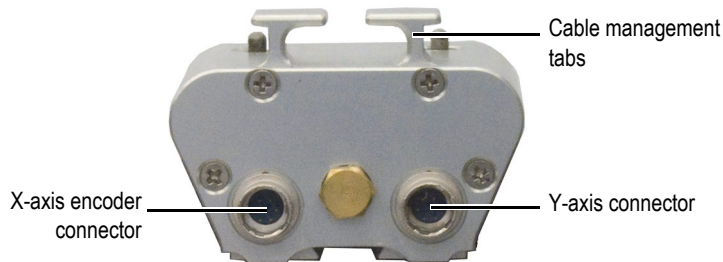
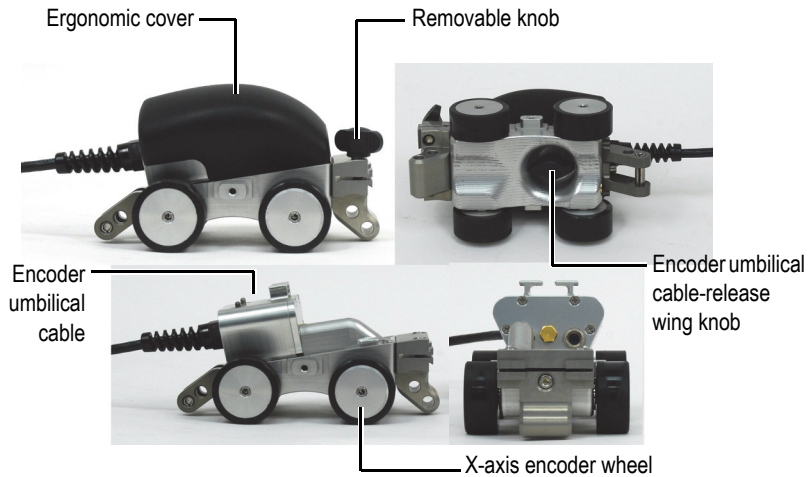

Figure 1-6 The encoder umbilical cable
Figure 1-7 The main module components
The main module of the ChainSCANNER offers an ergonomic grip to manipulate the scanner (see Figure 1-7 on page 30). The main module also holds an internal x-axis encoder and its connector. The umbilical encoder cable connects to the x-axis connector and provides the y-axis encoder connector (see Figure 1-6 on page 29).
2. Locate the encoder umbilical cable-release wing knob under the main module (see Figure 1-7 on page 30).